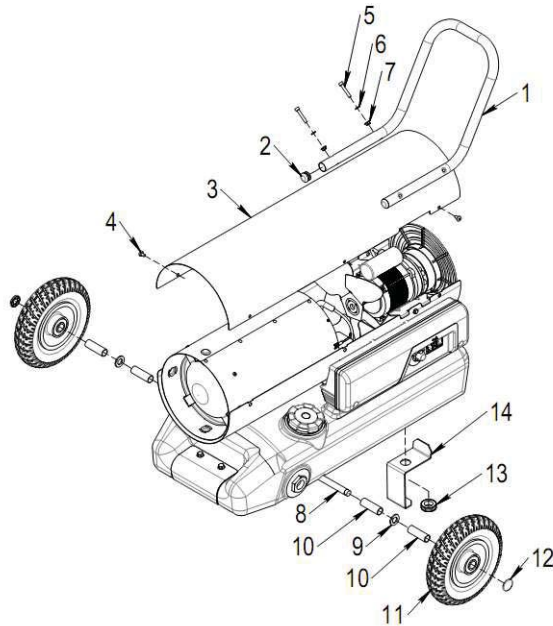

Fig. 1
Before adding fuel, installation and use, assemble the loose parts as follows (see Fig. 1): Fix end caps (2) to handle (1). Remove upper cover (3) unscrewing six fixing screws (4). Assemble handle to upper shell using four screws (5), washers (6) and nuts (7). Reassemble upper shell with the six screws (4).